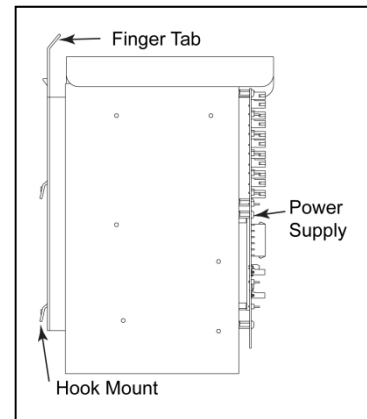

Figure 12: Power Supply
4. Pull the finger tab and lift the power supply assembly. Refer to **Figure 12**.